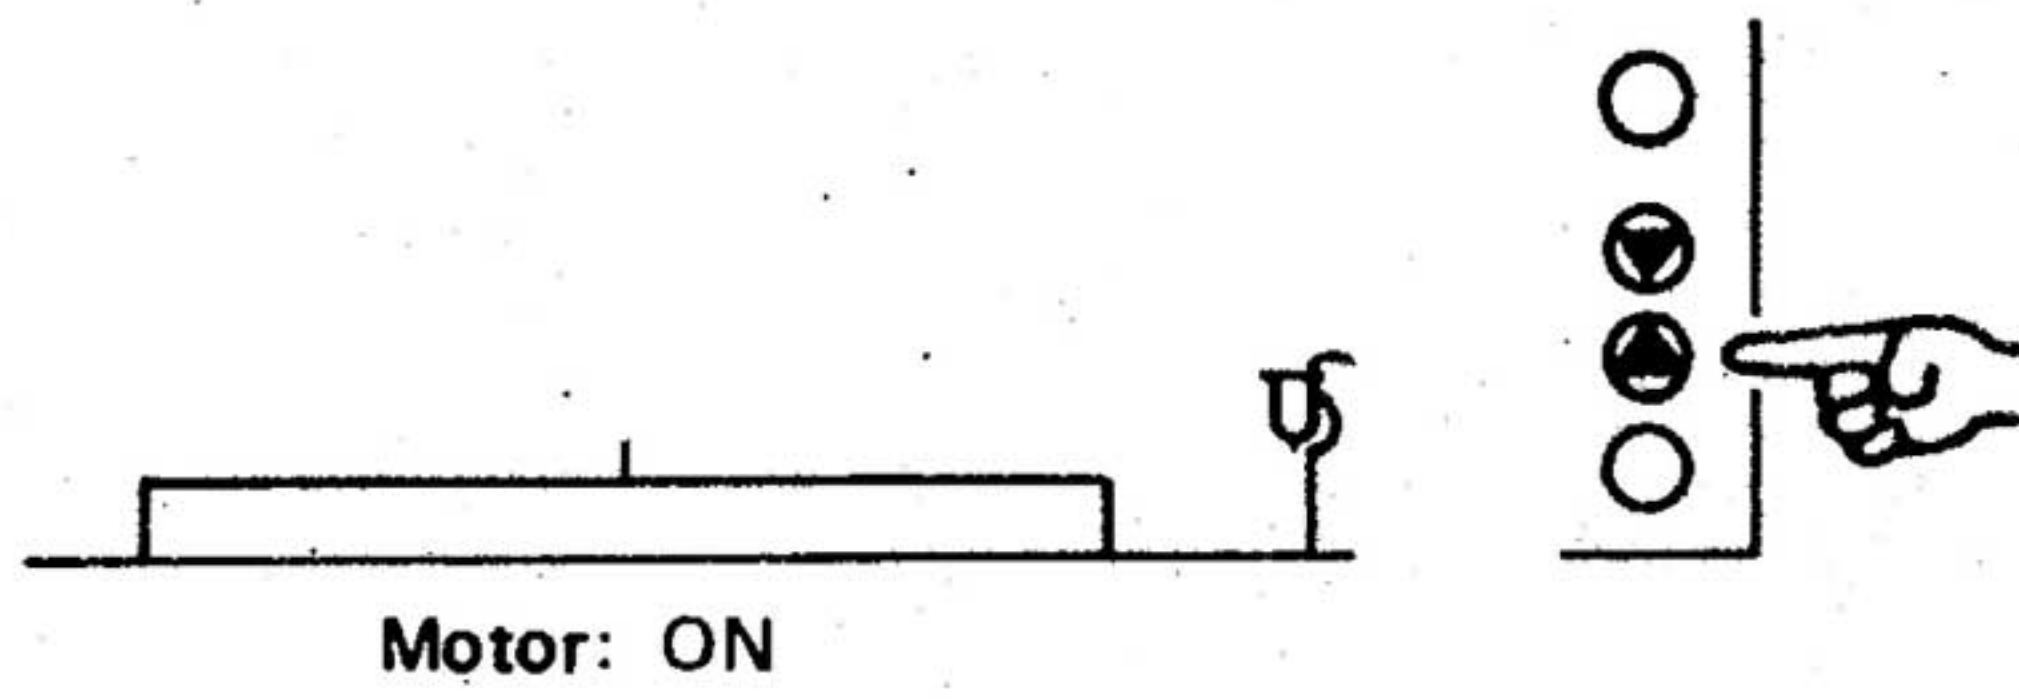

Fig. 1
2. Check voltages indicated in Fig. 1.